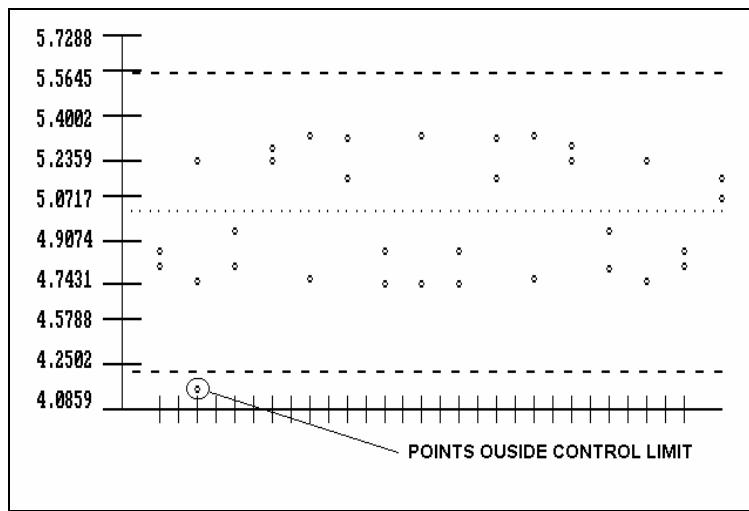

Figure B-2 Out of Control Limit
1. One or more points are outside the control lines is the indication of a lack of stability as Figure B-2.